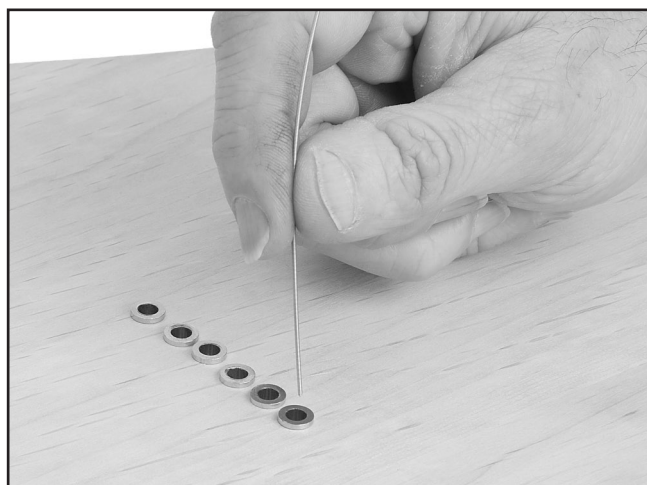

Figure 27. Threading string through ferrule.
1. If you installed ferrules, thread the 1st string through the ferrule as shown in **Figure 27**.